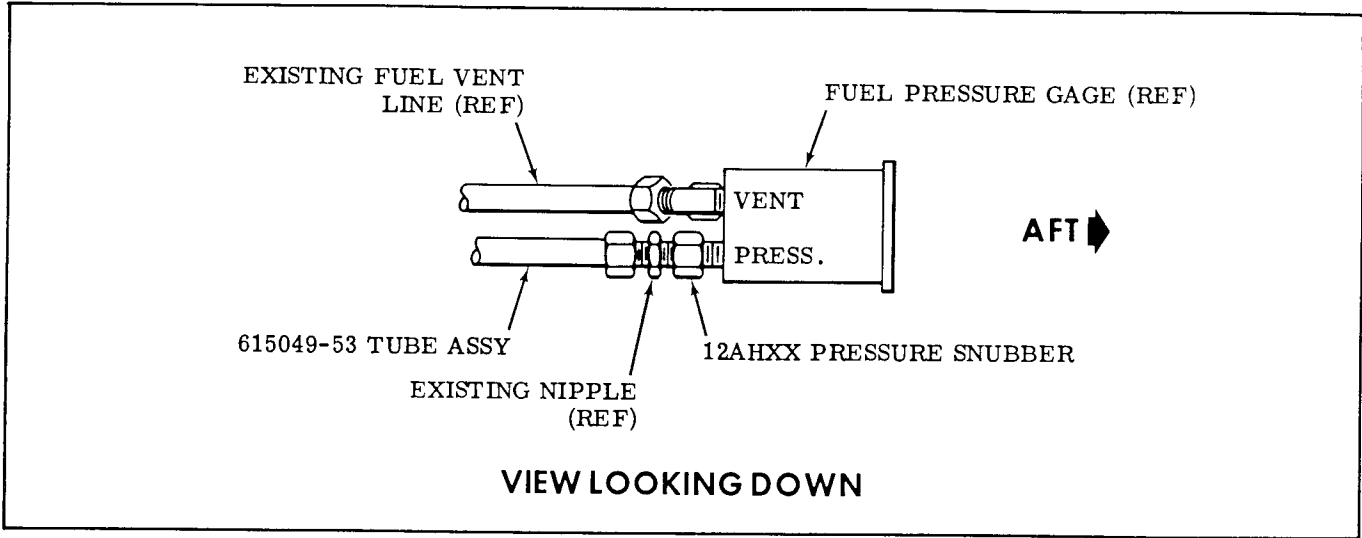

Figure 1.
3. Apply teflon tape to threads of 12AHXX pressure snubber and install snubber in pressure port of fuel pressure gage (see Figure 1.).
4. Apply teflon tape to threads of existing fitting, removed in step 2., and install fitting and 615049-53 tube assembly (see Figure 1.).